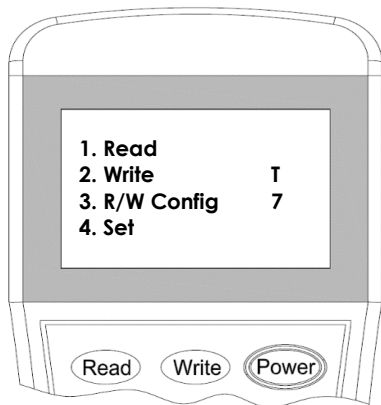
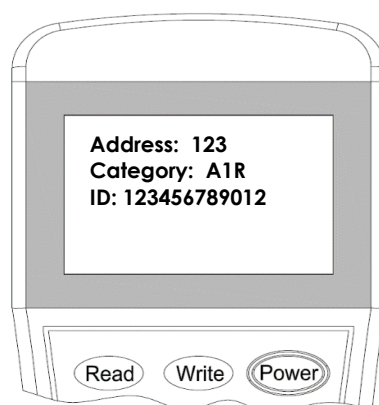

Figure 9
Figure 10
2. Switch-on the programmer, then press button **“Read”** or **“1”** to enter to Read mode (Figure 9). The programmer will display the configuration after few seconds. (Figure 10).